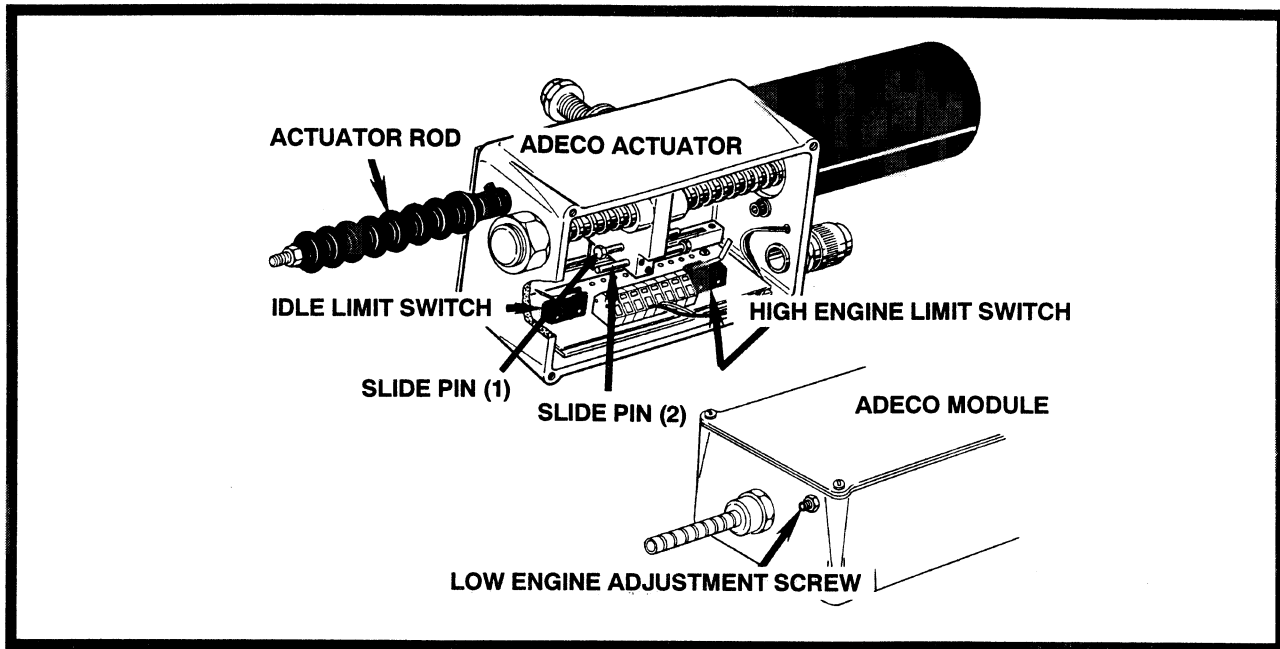

Figure 2-6. Adecu Adjustment, LGS-423.
b. Adjustments. (Refer to Figure 2-6 and 2-7)
- (1). With the throttle rod and Adeco actuator disconnected from governor, advance governor arm to high speed position. This should advance governor throttle lever to maximum wide open position. Verify wide open position of lever by checking governor spring for tension. Reconnect throttle rod.
- (2). From ground control, start engine. Allow engine to come up to normal operating temperature. Advance governor arm to wide open position. Set high engine speed at 3000 RPM (2500 RPM for machines with piston pump) by making adjustments at throttle rod. Return engine to low speed.